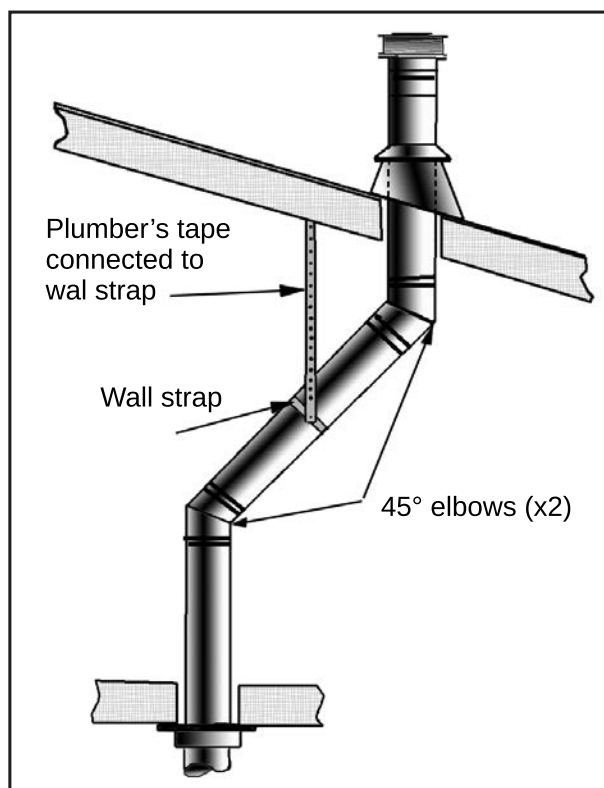
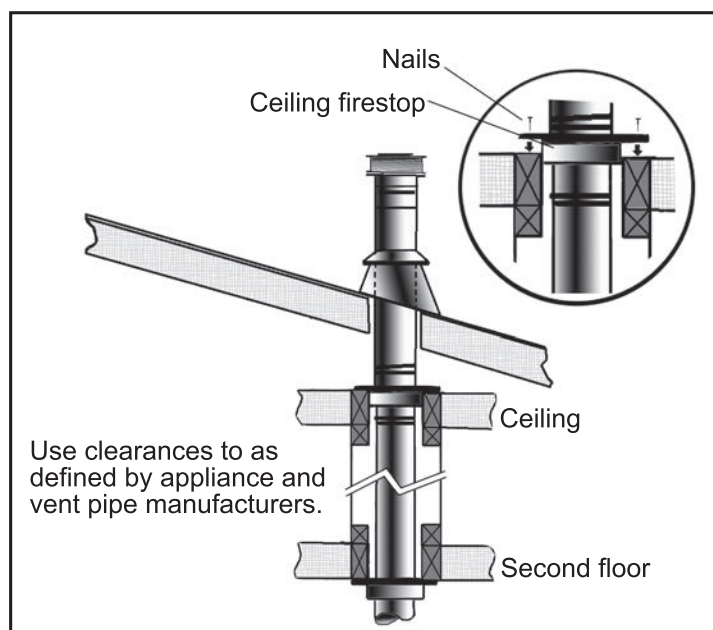

Figure 60: Use of Wall Straps.
Figure 61: Multi-Story Vent Pipe Installation.
Table 8: Minimum 'H' for Figure 61.
- (1) If an offset is necessary in the attic to avoid obstructions, it is important to support the vent pipe every 3 feet (914 mm), to avoid excessive stress on the elbows, and possible separation. Wall straps are available for this purpose (see Figure 60).
- (2) When ever possible, use 45° degree elbows instead of 90° degree elbows. The 45° degree elbow offers less restriction to the flow of flue gases and intake air.
- (3) For multi story installations; a ceiling firestop is required at the second floor, and any subsequent floors (see Figure 61). The opening should be framed to 10" (254 mm) x 10" (254 mm) inside dimensions, in the same manner as shown in Figure 49.